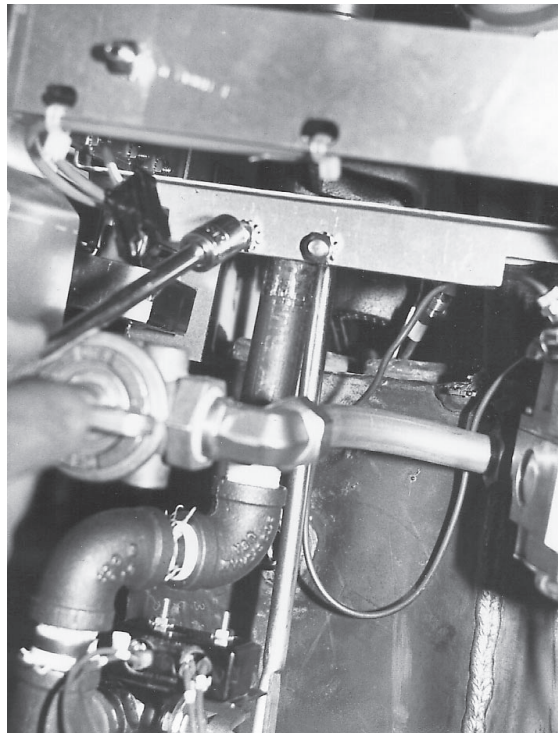

Fig. 88
26. For fryers housing a filter station with a quick disconnect from the front of unit with a 7/16" socket and wrench remove the "U" bolt securing the disconnect line to the tank assembly. (Fig. 88)